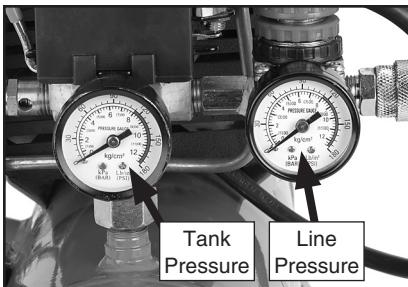

Figure 6. Pressure gauges.
7. Check the tank pressure gauge (**Figure 6**) to see that the tank pressure climbs to approximately 115-120 PSI (around 8 BAR), then automatically turns **OFF**.
The tank pressure is displayed on the left pressure gauge, and the air to be delivered to the tool (line pressure) is displayed on the right pressure gauge, shown in **Figure 6**.